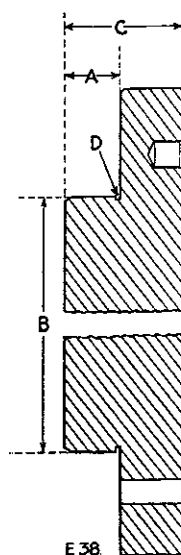

Fig. V-2—Machining flywheel for ring gear
2. Machine the flywheel teeth off flush and turn the gear ring spigot to the dimensions shown in the illustration (Fig. V-2).